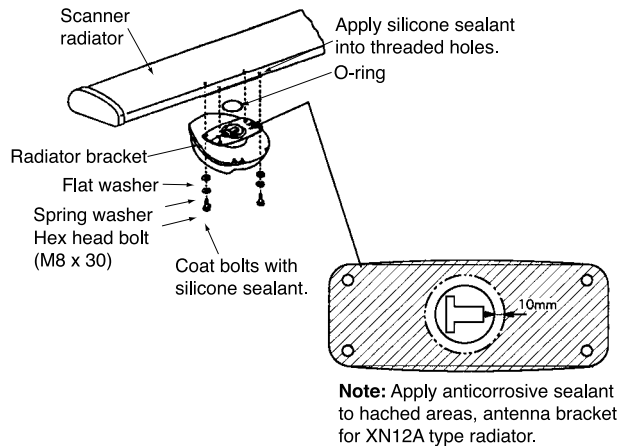

Figure 6-13 Fastening the radiator to the radiator bracket
3. Now is the time to fix the radiator to the radiator bracket. Apply anticorrosive sealant (silicone sealant) to hatched areas, to prevent corrosion. See the figure below. Apply silicone sealant into threaded holes on the scanner radiator. Remove the cap on the radiator bracket and orient the radiator bracket as shown in Figure 6-13. Apply grease to the O-ring and set it to the center of the radiator bracket. Coat the radiator fixing bolts with silicone sealant. Fasten the radiator to the radiator bracket with the FURUNO logo on the radiator facing ship's bow.